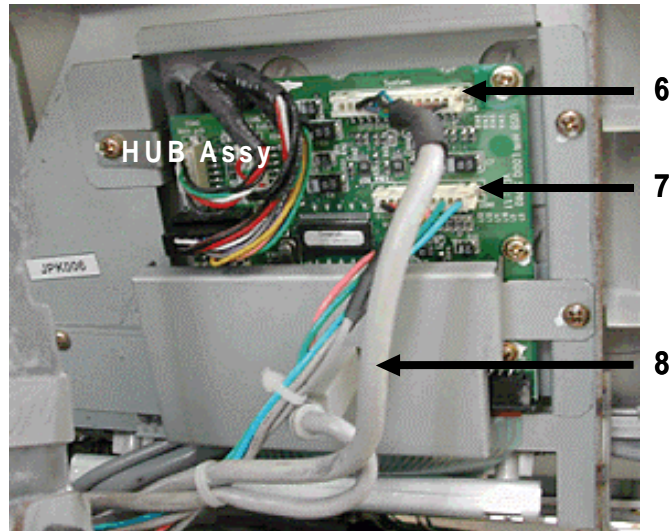

Figure 8-19 Disconnect 3 connectors from the HUB
- 4.) Disconnect three connectors (6-8) from the HUB board. Refer to Figure 8-19.